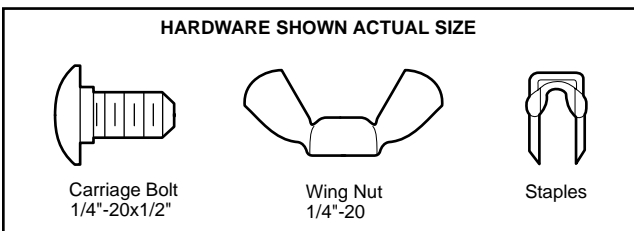

Figure 1
- Slip the curved arms over the rounded edge of each door track, with the curved arms facing the door. Snap into place against the side of the track. It should lie flush, with the lip hugging the back edge of the track, as shown in Figure 1.